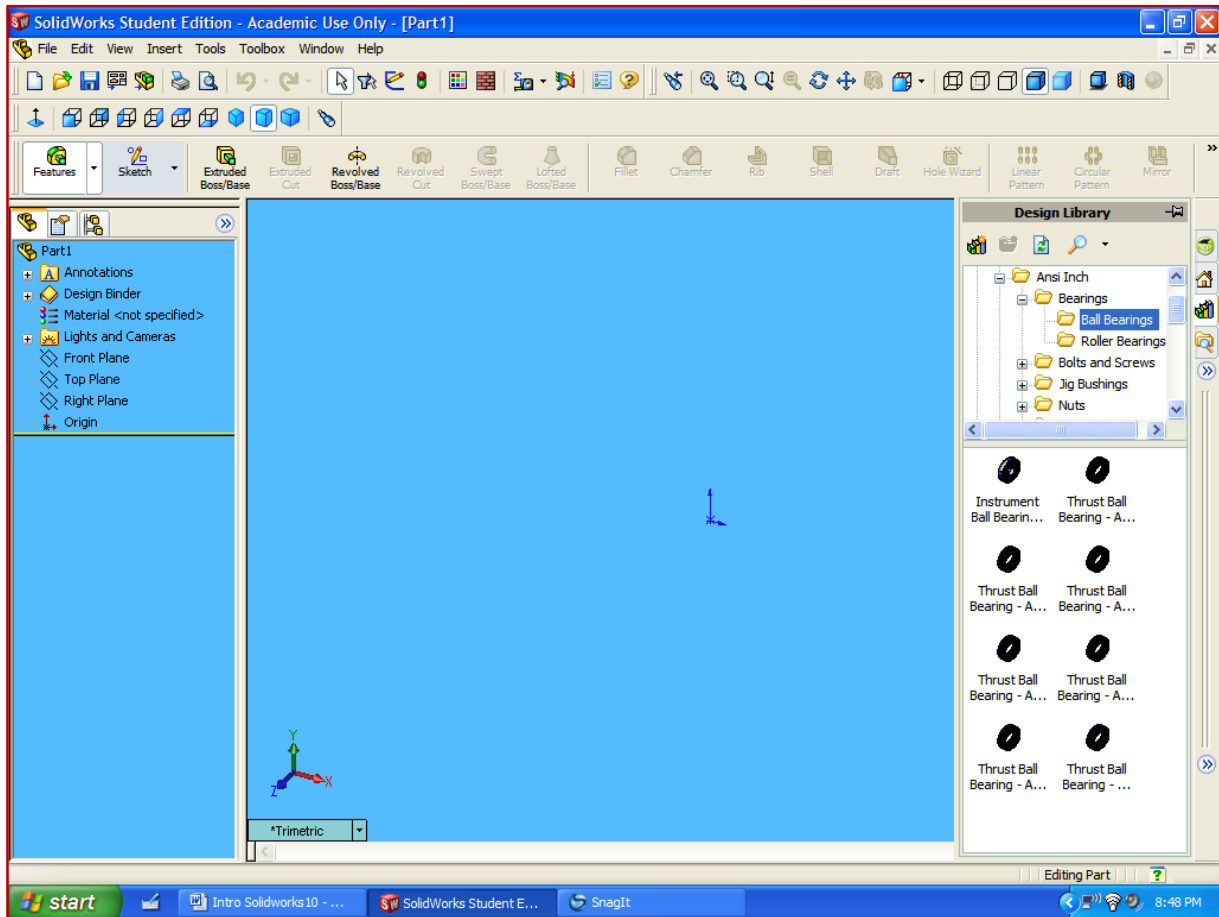

Figure 9.2 – Toolbox Menu
Step 76: Next, in the Task Pane expand **Design Library→Toolbox→ANSI Inch→Bearings→Roller Bearings**. See Figure 9.2.